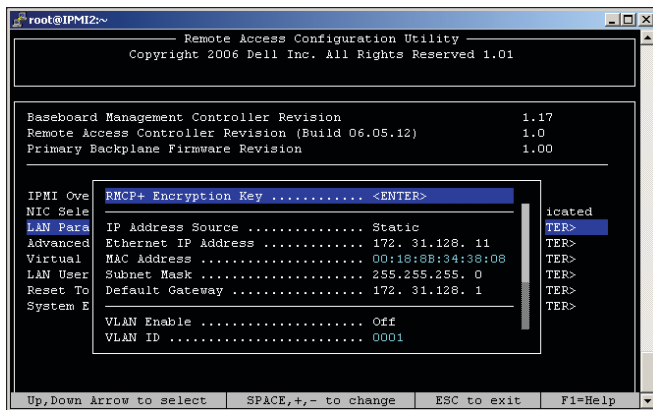

Figure 2. LAN Parameters options in the Remote Access Configuration Utility
2. In the LAN Parameters options, set the IP Address Source parameter to either Static or DHCP, and set the VLAN Enable parameter to Off (see Figure 2).